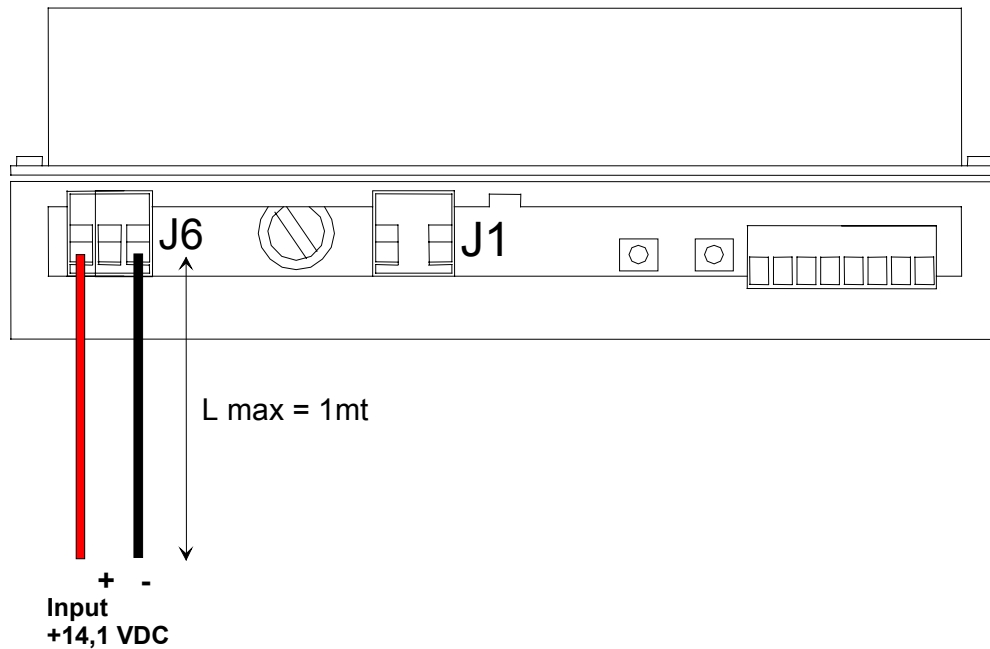

Figure 8. 14.1VDC Input Voltage Cable Connection
- If the F2 output fuse is still whole and the voltage is 10.5V, then the input voltage at J3 must be checked (see Figure 8. 14.1VDC Input Voltage Cable Connection):